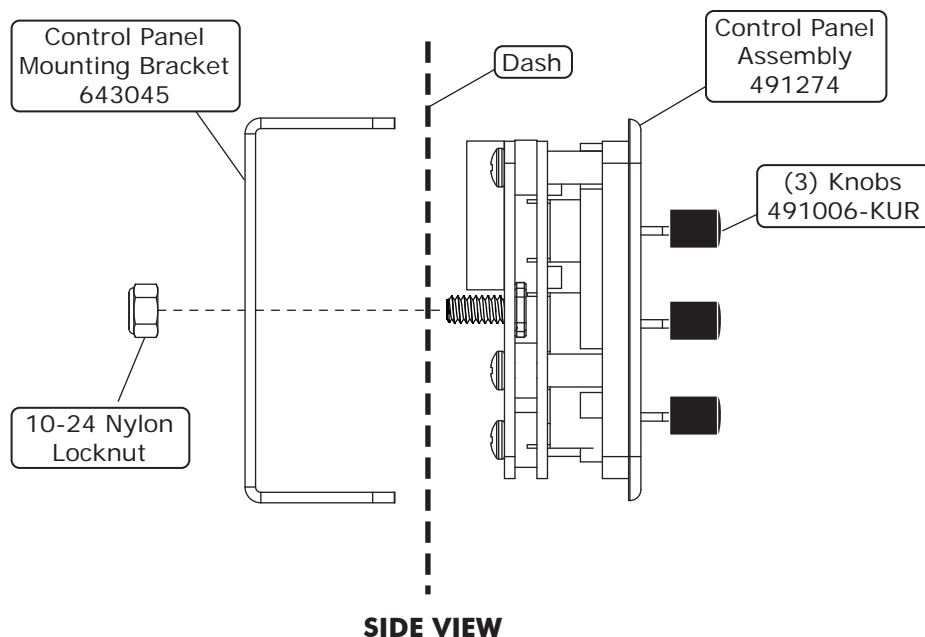

Figure 1
1. Install the control panel assembly into the dash by placing the control panel bracket behind the dash and securing it to the control panel assembly using a 10-24 nylon locknut (See Figure 1, below).